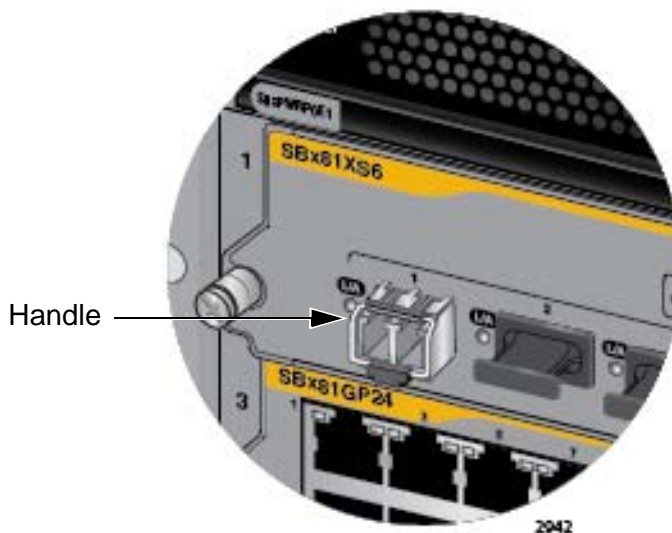

Figure 87. Verifying the Position of the Handle on the SFP+ Transceiver in the AT-SBx81XS6 Line Card
5. Before connecting the cable, verify the position of the handle on the SFP+ transceiver. The handle should be in the up position, as shown in Figure 87.